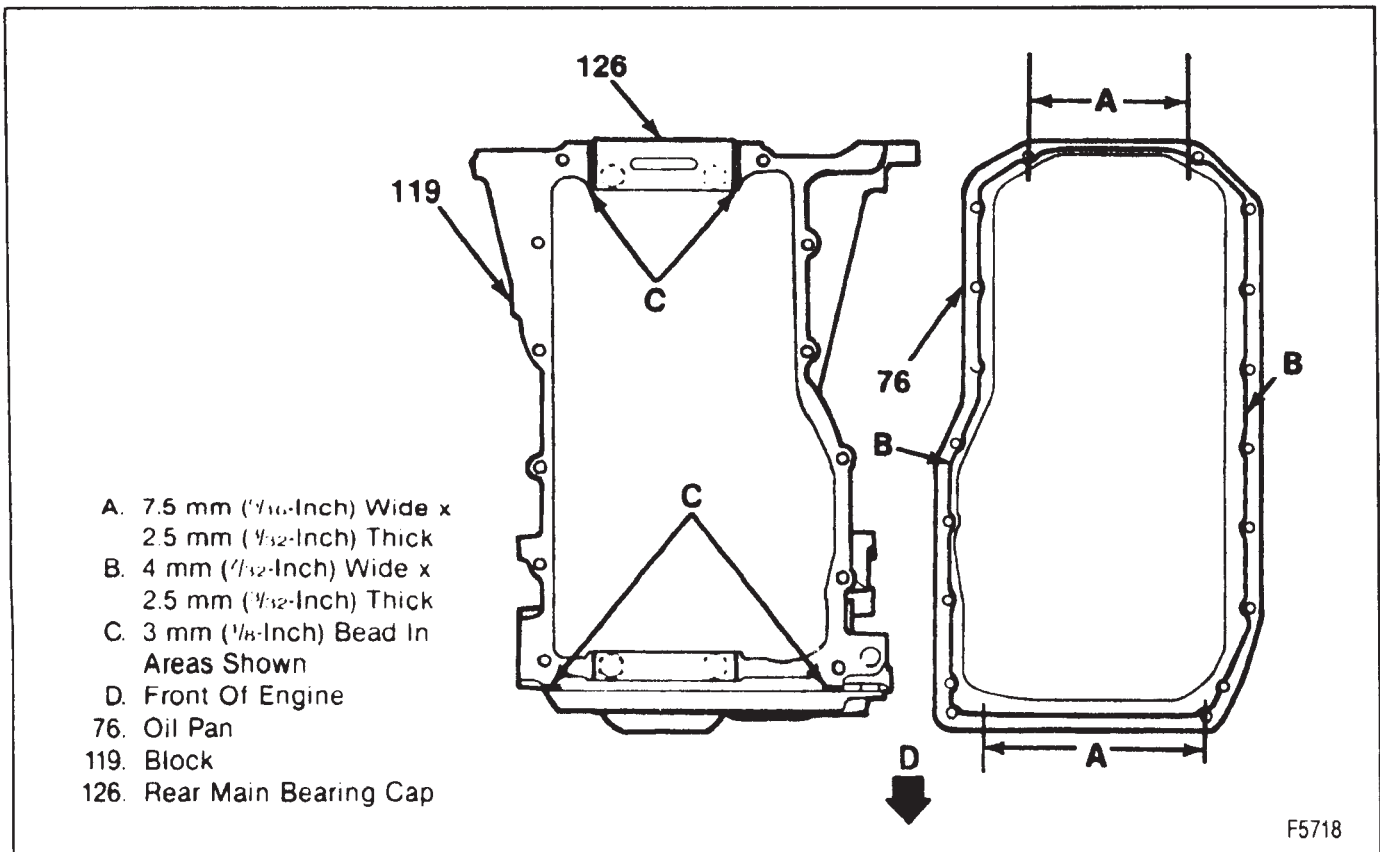

Figure 18—Applying RTV to the Oil Pan and Block
Install or Connect (Figures 18 and 30)
Remove or Disconnect (Figures 18 and 30)
- Apply RTV sealant to the oil pan flange and block. Refer to figure 18.